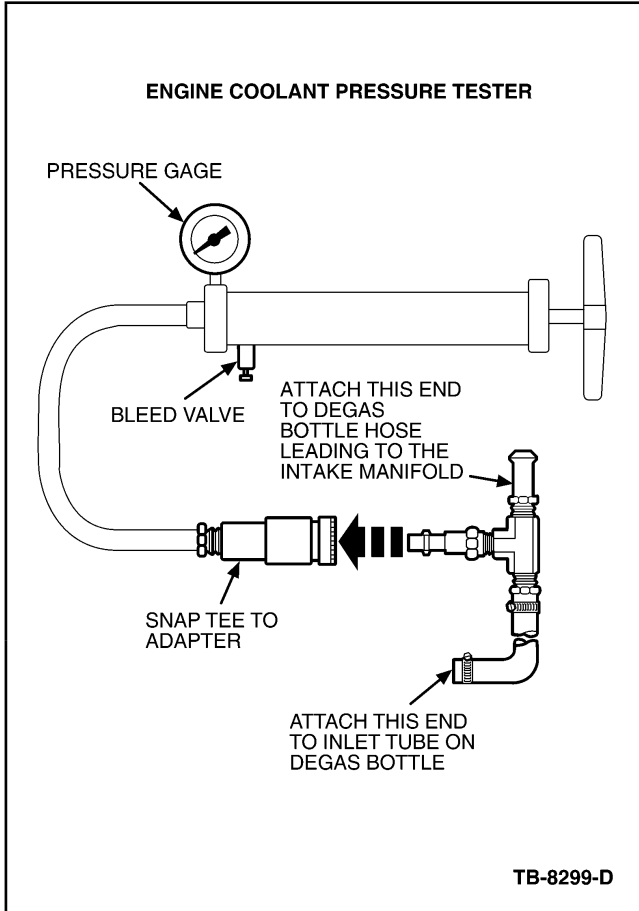

Figure 1 - Article 09-8-3
- b. Install a pressure tester in-line with the degas bottle hose using Rotunda 014-R1068 adapter. (Figure 1)